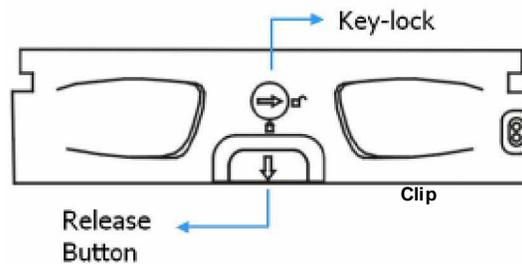
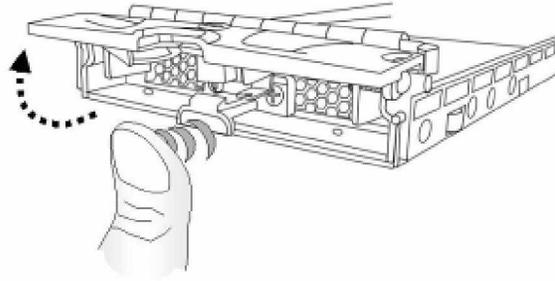

Figure 2-8: Front View of an Individual Drive Tray
Figure 2-9: Drive Tray Front Flap
Step 1. **Make sure the key-lock is in the unlocked position**, i.e., the groove on its face is in a horizontal orientation. If the groove is in a vertical position, as shown in *Figure 2-8*, then the key-lock is locked and the front flap on the drive tray cannot be opened.
Step 2. **Open the front flap on the drive tray** (See *Figure 2-9*) by pushing the release button (shown in *Figure 2-8*) on the front of the drive tray. The button is easy to access and lift.